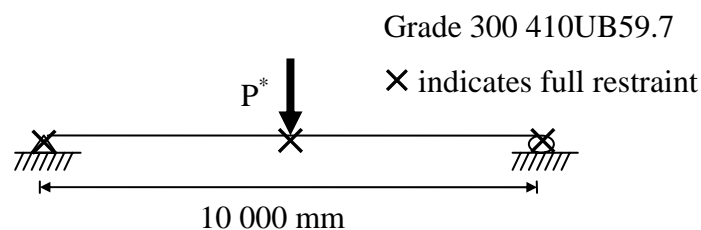

Figure 3 Beam loading diagram
- b) As shown in Figure 3, a 10 m long Grade 300 410UB59.7 is simply supported and is subjected to a point load, P^* , at midspan which causes bending about the major (x) axis. The load is applied to the top flange.